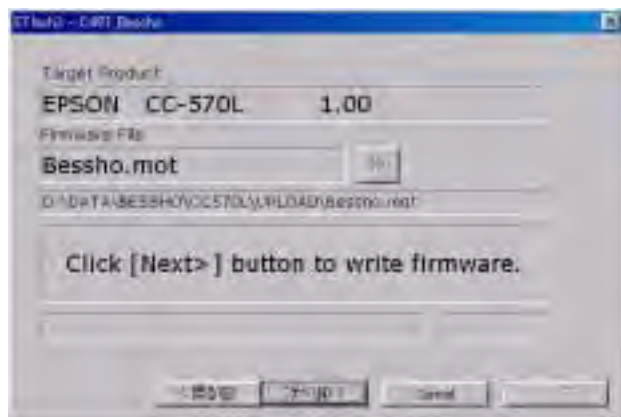

Figure 5-3. Firmware Search
4. Continue the program by pressing the “Next >” button, and the window shown in Figure 5-3 will be displayed.